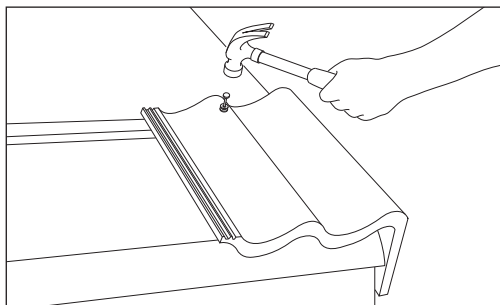

Fig 4 Mechanically fix verge unit
- 11 Drive aluminium nail with spacer unit assembly, through cloak verge nail hole, leaving a degree of free play (Fig 4).